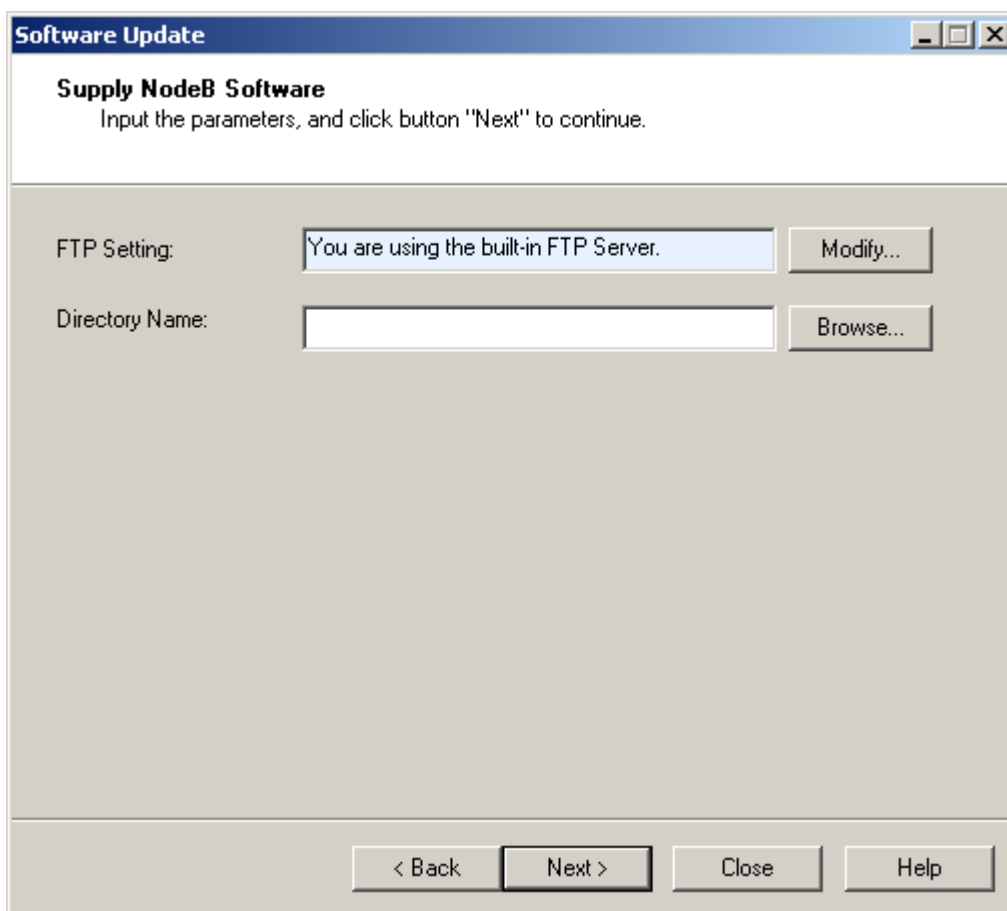

Figure 14-4 Supply NodeB Software dialog box
- 3) Click **Next**. The **Supply NodeB Software** dialog box opens up as shown in Figure 14-4.